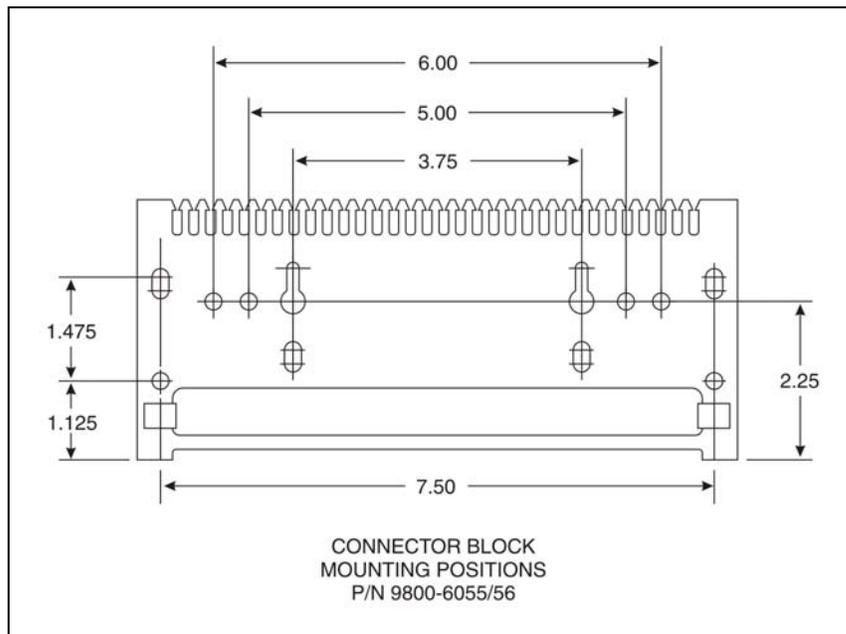

FIGURE 3-6: 289H CONNECTOR BLOCK MOUNTING POSITIONS
- Arrange to obtain a suitable mounting bracket for the connector blocks. System Studies supplies a mounting bar for this purpose (Part No. 9800-6090), intended for use with the 9800-6055 and 6056 connector blocks. Both blocks are equipped with a variety of slots for easy installation (FIGURE 3-6).